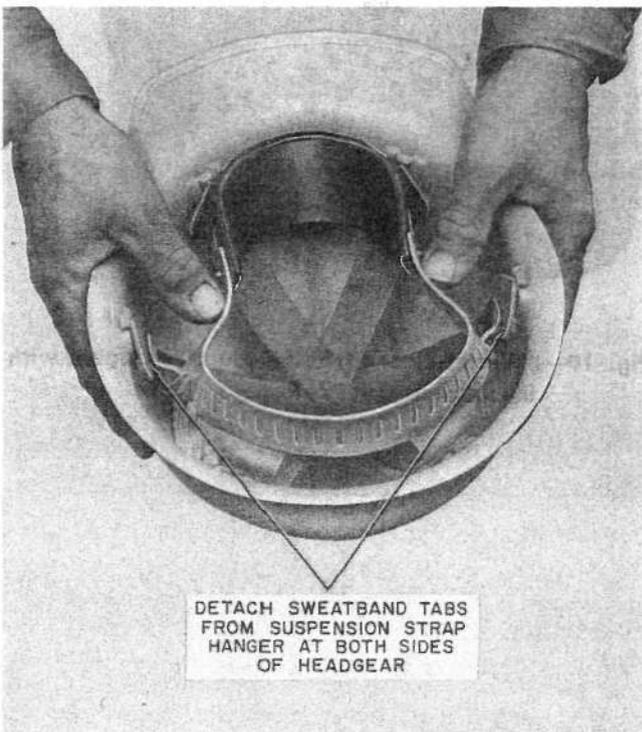

Fig. 11—Detaching Side Sweatband Tabs
2.09 When an Estherene II safety hat or cap is being worn and it is necessary to use a head telephone set, the headband should be worn over the suspension. In order to do this, detach the sweatband tabs at each side from the suspension strap hanger (Fig. 11) so the head telephone set may be worn as shown in Fig. 12.